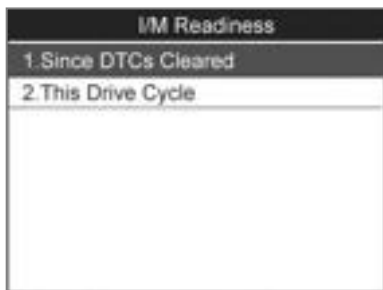

Figure 5.20
- 3) If the vehicle supports both types of tests, then both types will be shown on the screen for selection (*Figure 5.20*).